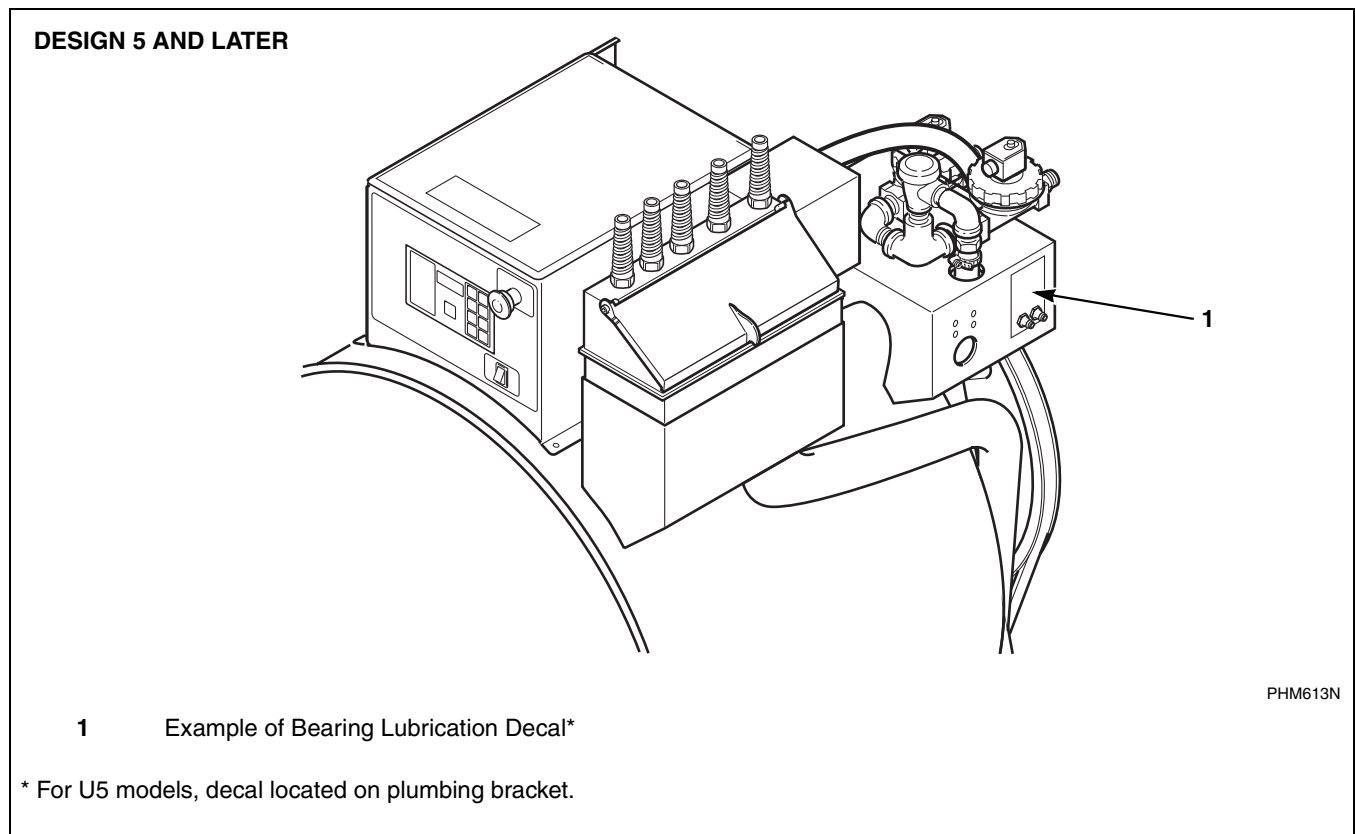
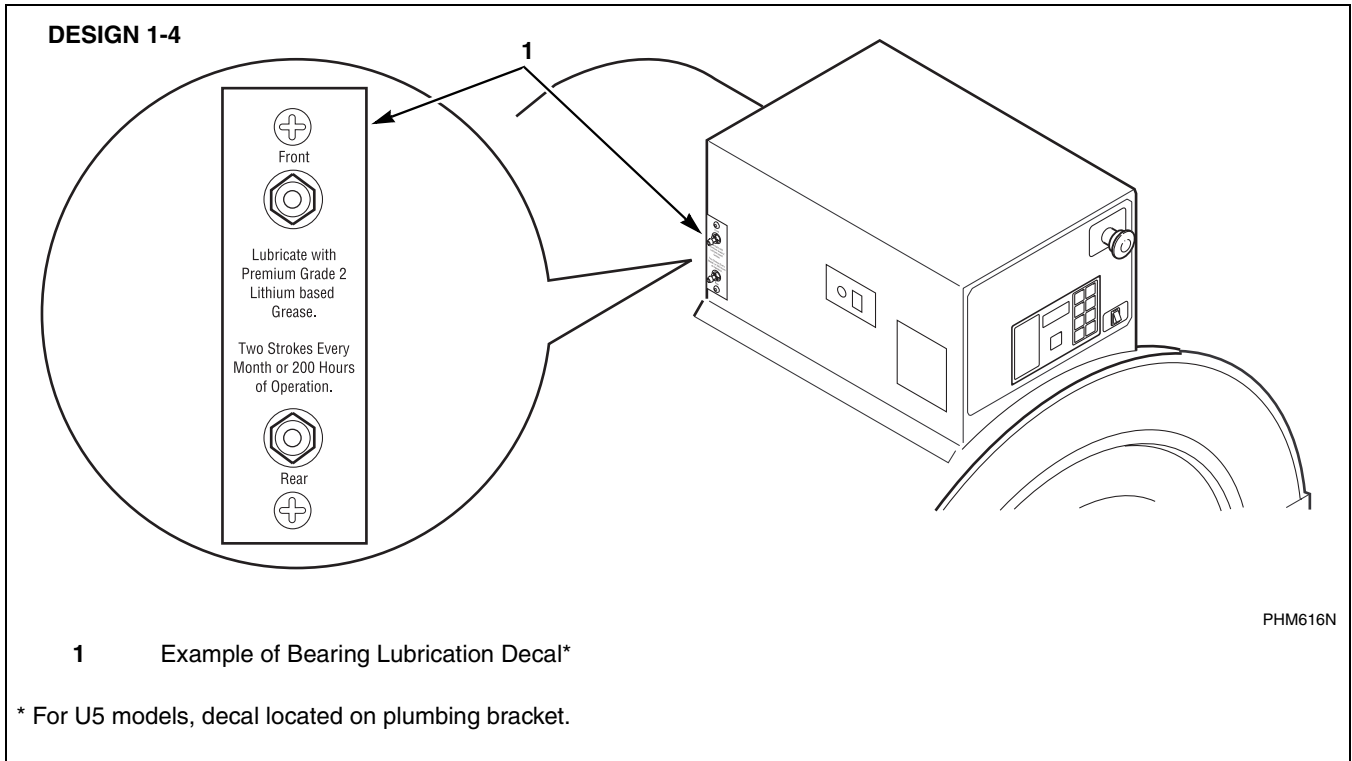

Figure 9
Figure 10
1. Each month OR after every 200 hours of operation, lubricate bearings of the UW60. Refer to *Figure 9* and *Figure 10*.